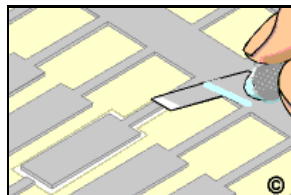

Figure 4: Cut out the new surface mount pad. Cut from the plated side.
8. Cut out and trim the new surface mount pad. Cut out from the plated side. Cut the length to provide the maximum allowable circuit overlap for soldering. Minimum 2 times the circuit width. (See Figure 4).